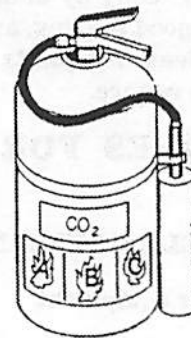

FIGURE 7
•You will need a small CO_2 fire extinguisher (fig. 7).